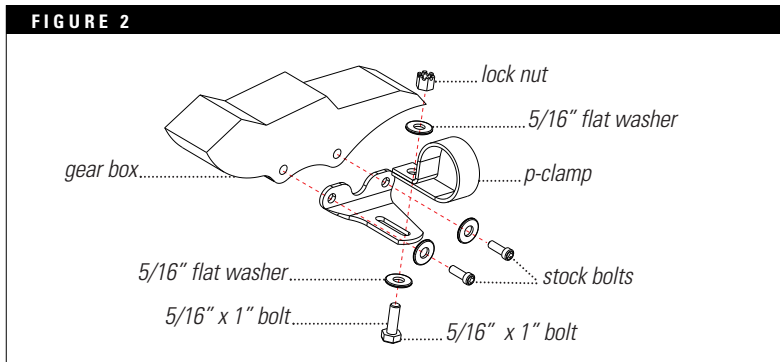

FIGURE 2
1. Remove two lower gear box cover hex head screws and install bracket using stock hex bolts and washers (see figure 2). Clamp will be mounted later.
5. Install heavy duty P-clamp, supplied, onto lower headpipe (see figure 2). Install 5/16" x 1" bolt with 5/16" washer and lock nut, all supplied. **DO NOT TIGHTEN.**